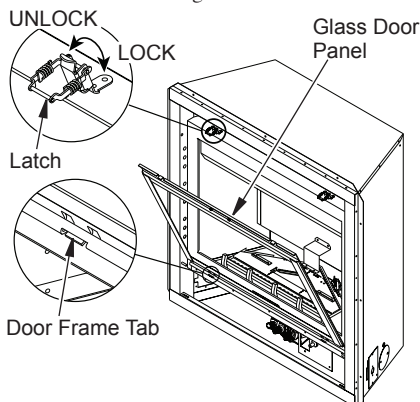

Figure 57 - Removing/Replacing Glass Door
3. Hold the glass frame with one hand and with the other hand unlock the two door latches found on top of the firebox to release tension on the door frame (see Figure 57).
5. Lift the lower frame tabs out from the positioning slots found on the lower frame retaining bracket (see Figure 57).